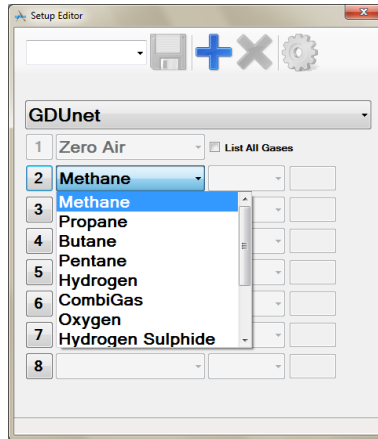

Fig. 6-6 Specify Gas Type
5. To specify gas No.2 (0 to 1000 PPM Flammable), select 2 to display gases drop down list, as illustrated in Fig. 6-6.
9. To specify gas No.3 (0 to 100% LEL), select 3 to display gases drop down list, as illustrated in Fig. 6-6.
12. To specify gas No.4 (0 to 100% VOL), select **4** to display gases drop down list, as illustrated in Fig. 6-6.
13. To specify gas No.5 (0 to 1000ppm CO), select **5** to display gases drop down list, as illustrated in Fig. 6-6.